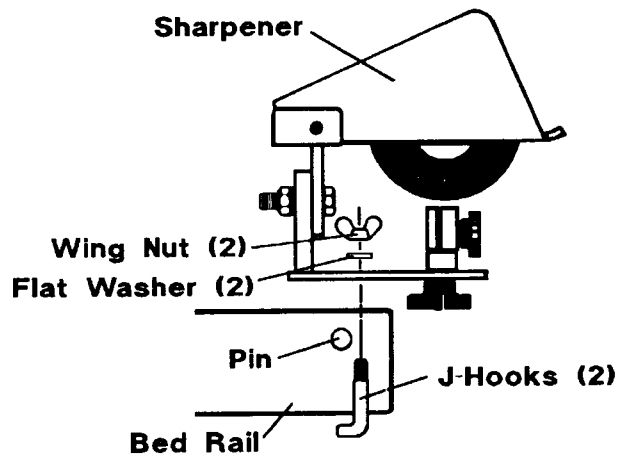

FIG 2-4
2. For use in the field with the Wood-Mizer mill, move the carriage forward to allow a 32" clearance for the blade. The grinder can be mounted at the end of the bed rail as shown in Figure 2-4. The two "J" hooks provided can be used to lock the grinder to the bed rail by simply hooking them under the ramp mounting pin and securing with two flat washers and wing nuts.